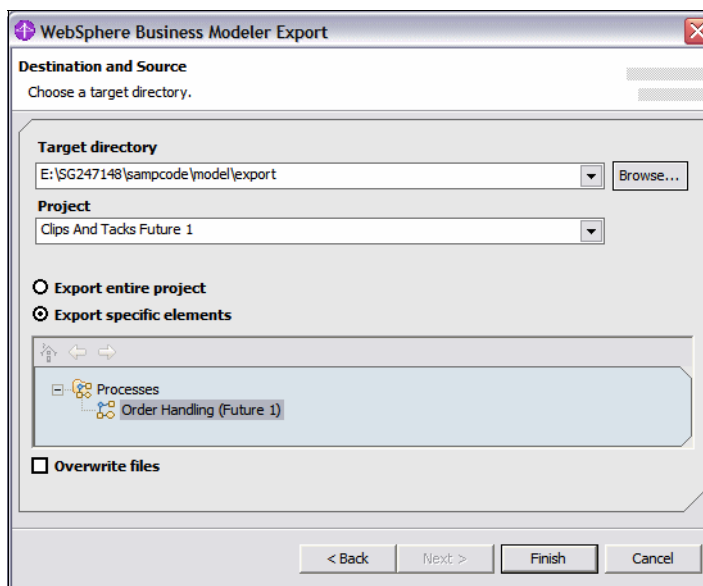

Figure 9-20 Export: Destination and source
- ▶ Define the destination and source information export (Figure 9-20):
The target directory specified in Figure 9-20 contains three files: